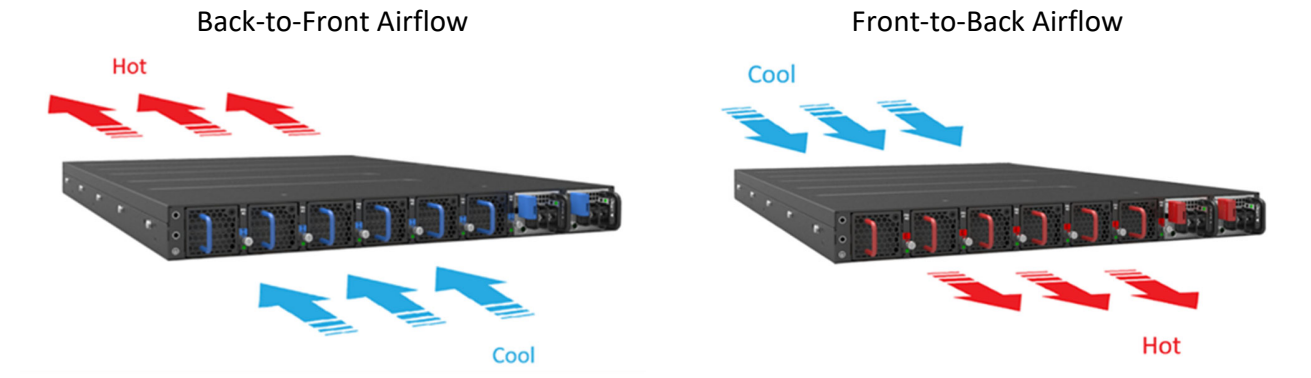

Figure 3.
- Cooling: The S9301-32D has two options for airflow direction. There is a back-to-front option (Figure 3. Left) and a front-to-back option (Figure 3. Right). Make sure the equipment on the same rack have the same airflow direction.